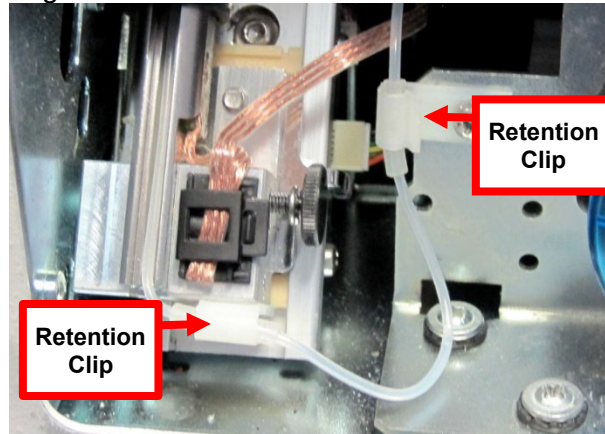

Figure 13
- 3.7. Remove the old Needle-to-Reading Cell Tubing by removing the tubing from the Retention Clips. Figure 13